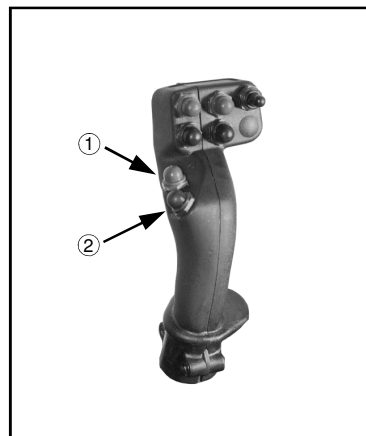

FIG 5.13
To raise and lower the transom/boom assembly, depress the “GRAY” (UP) or the “RED” (DOWN) buttons on the hydrostatic drive handle (fig. 5.13, item 1 & 2). While depressed, either button activates the transom lift cylinders (fig. 5.12).